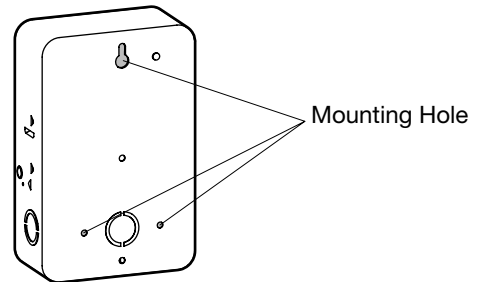

FIG. 3 Enclosure Mounting Holes
1. Mount the enclosure in the desired location using the three mounting holes provided. Position at eye level if possible, providing space to the left of the enclosure for the cover to swing open. See FIG. 3.